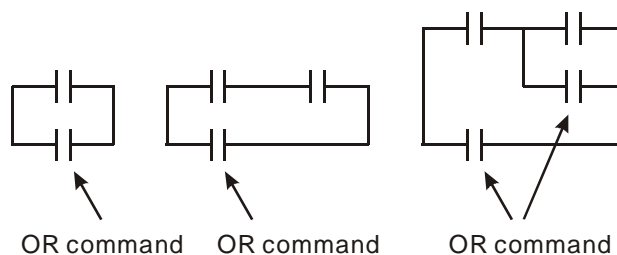

Figure 16-33
**OR (ORI) command:** a single device is connected with one device or a block. See Figure 16-33.